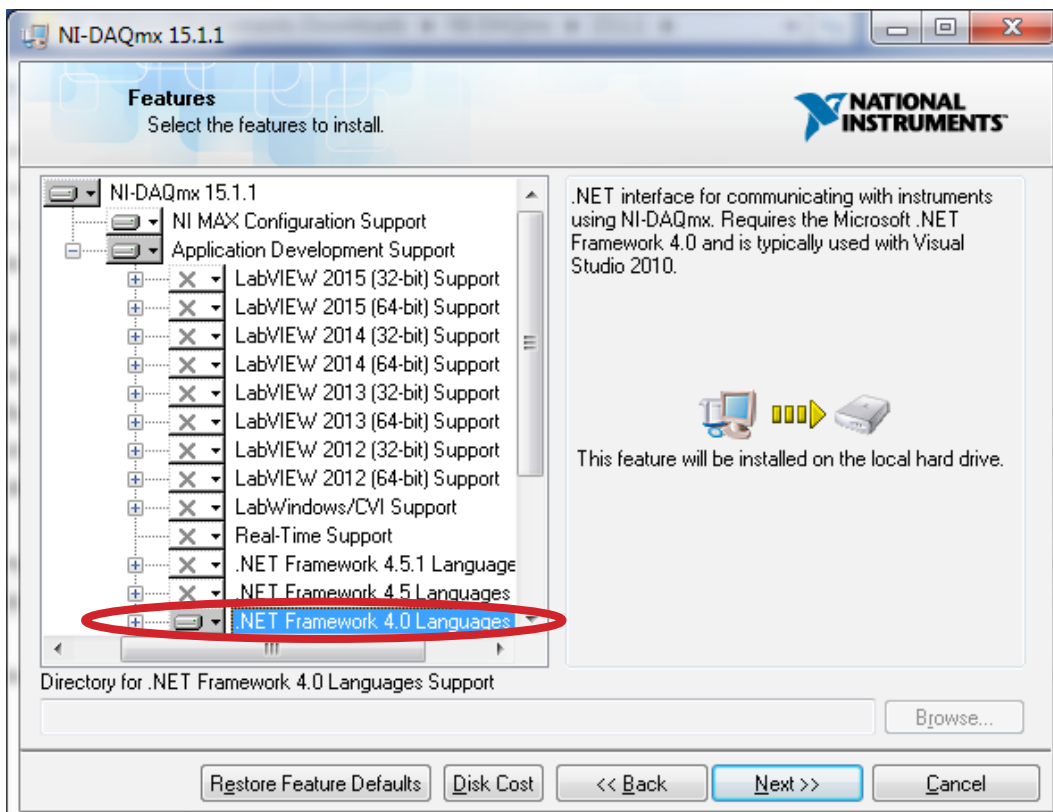

Figure 3. National Instruments NI-DAQ Software Installation
- Choose which options to install. The QCA requires installation of the **.NET Framework 4.0 Languages**. Click the X icon next to this option to change it to the Install icon (see **Figure 3**). It is not necessary to install the Examples and Visual Studio Integration items; these are optional. Click NEXT.